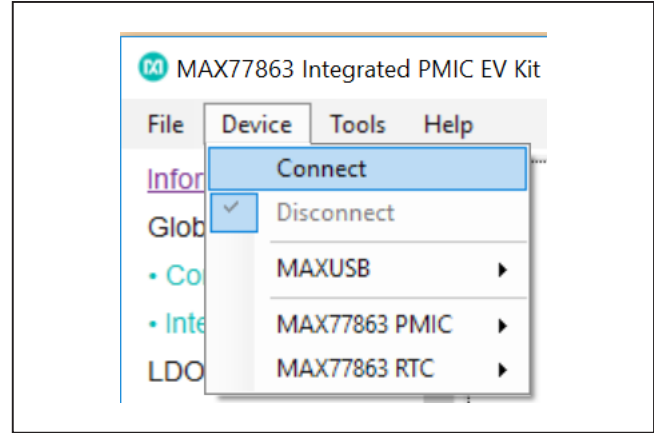
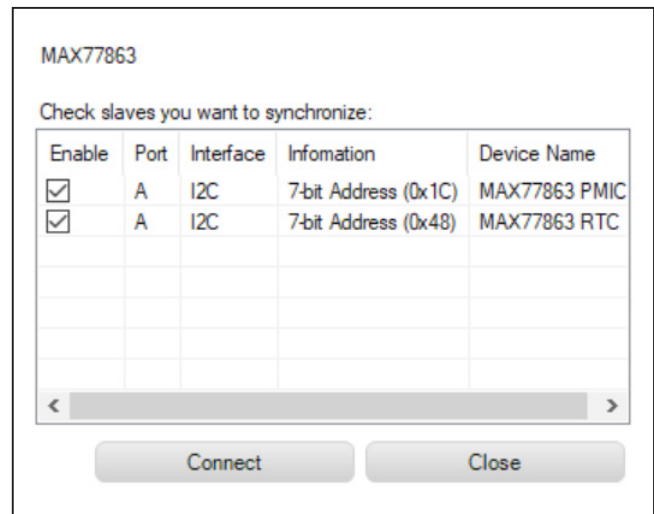

Figure 2. Connecting to the EV Kit
Figure 3. List of Devices
- 8) In the upper left corner of the GUI, select **Device** → **Connect** as shown in Figure 2. Once connected, a pop-up is shown as in Figure 3. Click on the **Read and Close** button.